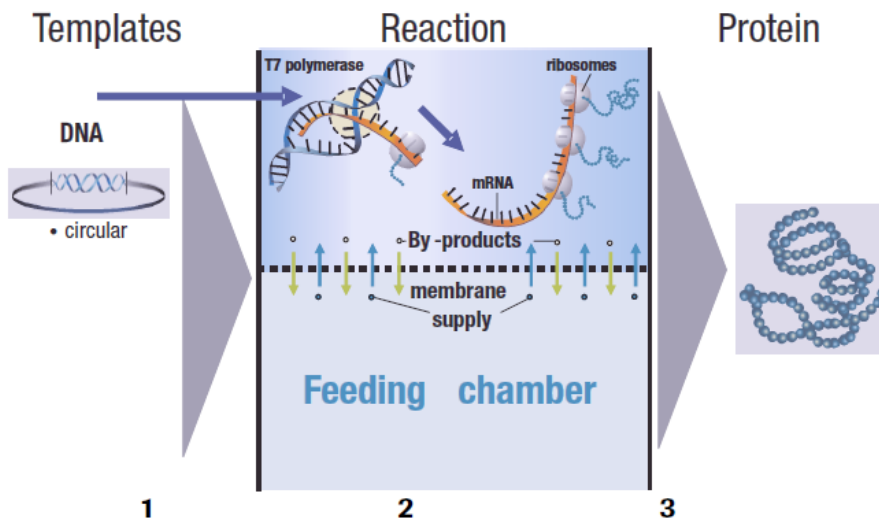
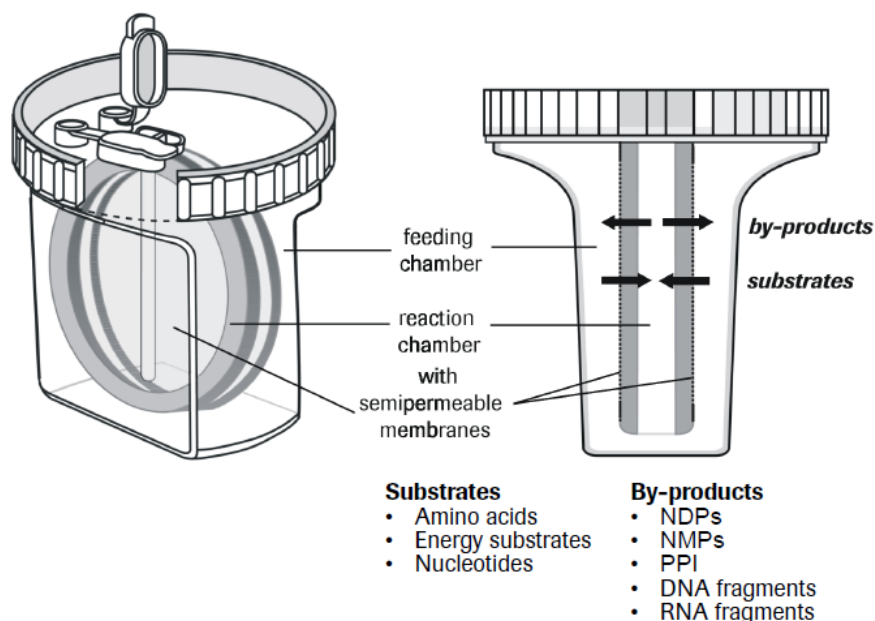

Figure 2. The CECF principle.
Figure 3. Illustration of the RTS 500 CECF reaction device.
The RTS 500 *E. coli* Disulfide Kit uses the CECF principle (Figure 2). Transcription, translation, and disulfide bond formation take place in the 1 ml reaction compartment of the reaction device (Figure 3). Substrates and energy components essential for a sustained reaction are continuously supplied through a semi-permeable membrane. At the same time, potentially inhibitory reaction byproducts are diluted since they diffuse through the membrane into the 10 ml feeding compartment. Protein expression and folding continues for up to 24 hours, yielding as much as several mg/ml of active protein.
Firstly, DNA with the gene of interest is cloned into a suitable T7-driven expression vector and this is added to the CECF device (Figure 3) (1). The circular DNA template is transcribed by T7 RNA polymerase *in vitro*, followed by translation of the mRNA into protein by the ribosomal machinery of the *E. coli* lysate. The protein is then folded into its native conformation and the disulfide bonds are formed (2). Finally, the product accumulates in the reaction mix during a run of 6–24 hours (3).